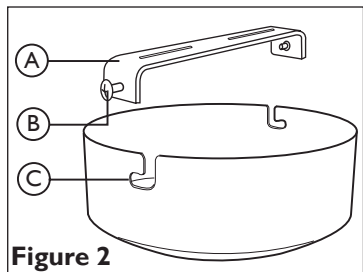
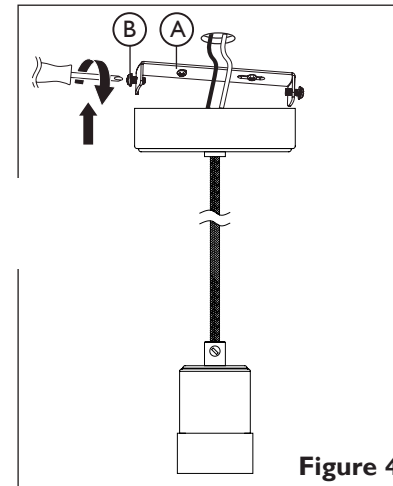

Figure 2
Figure 4
Refer to Figure 2. Remove the fixing bracket (A) from the ceiling cover by loosening the side screws.
Refer to Figure 4. Attach the product to the ceiling. This product has "L" shaped fixing slots (C) to allow easy attachment to the fixing bracket, as shown in Figure 2. Locate the "L" slots around the small screws (B) on the fixing bracket (A). Rotate the ceiling cover to attach the product to the bracket. Tighten the screws to secure. Take care not to trap any wiring.